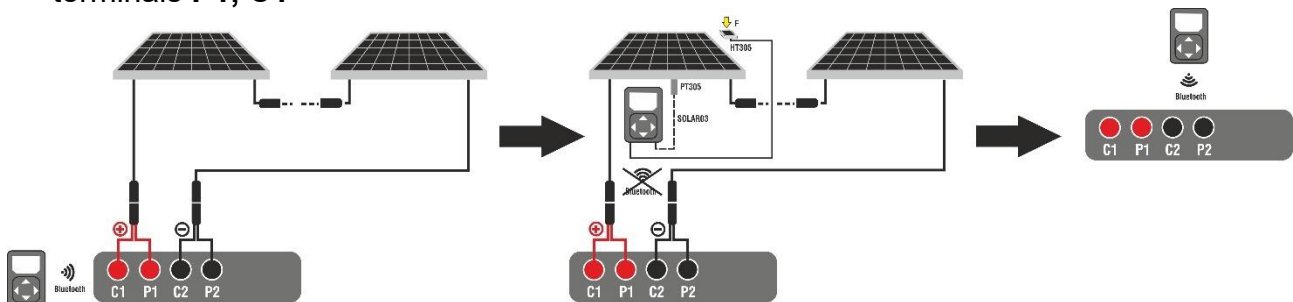
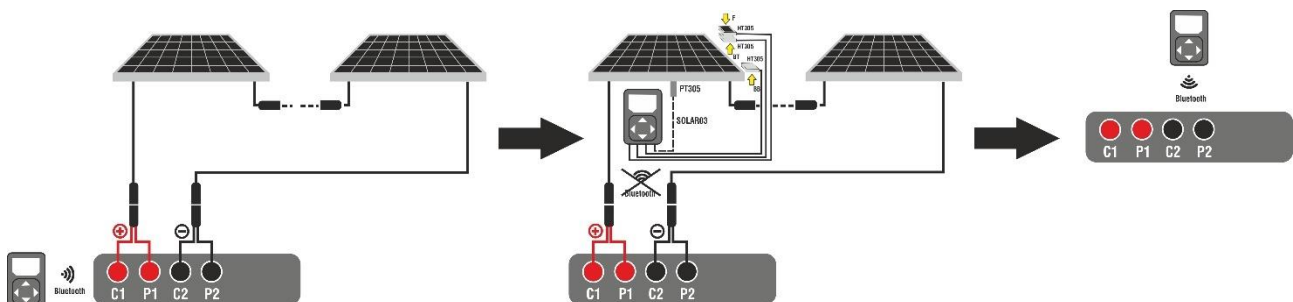

Fig. 47: Connection with SOLAR03 in synchronous recording on Monofacial modules
Fig. 48: Connection with SOLAR03 in synchronous recording on Bifacial modules
2. Connect the instrument to the module/string being tested as shown in Fig. 47 (Monofacial modules) or Fig. 48 (Bifacial modules). In detail, connect the negative pole output of the module/string to terminals **P2, C2** and the positive pole output of the module/string to terminals **P1, C1**
3. Move the SOLAR03 remote unit close to the instrument as shown in Fig. 47 or Fig. 48 – left side part
8. **Move the remote unit close to the modules** and connect the irradiance and temperature probes (if necessary) as shown in Fig. 47 or Fig. 48 – middle side part. In particular:
- **In case of Bifacial modules**→, position the **three HT305 reference cells** on the front surface of module (**F**), on the top back section(**BT=BackTop**) and on the bottom back section (**BB=BackBottom**) of the module. Connect the front reference cell (F) to input “**INP1**”, BT reference cell to input “**INP2**”, BB reference cell to input “**INP3**” and **possibly** the temperature probe **PT305** to input “**INP4**” of the remote unit. In accordance with the IEC/EN60904-1-2 standard, the instrument calculates the equivalent front-side Irradiance (**Irreq**) value, which corresponds to the Irradiance on the front surface only, which produces the same effects as the Irradiance measured on both sides, considering the **bifaciality factor** ( $\phi$ ) of the module according to the following relationship:
18. **At the end of the test session**, disconnect the SOLAR03 remote unit and move it back close to the instrument (se Fig. 47 or Fig. 48 – right side part)